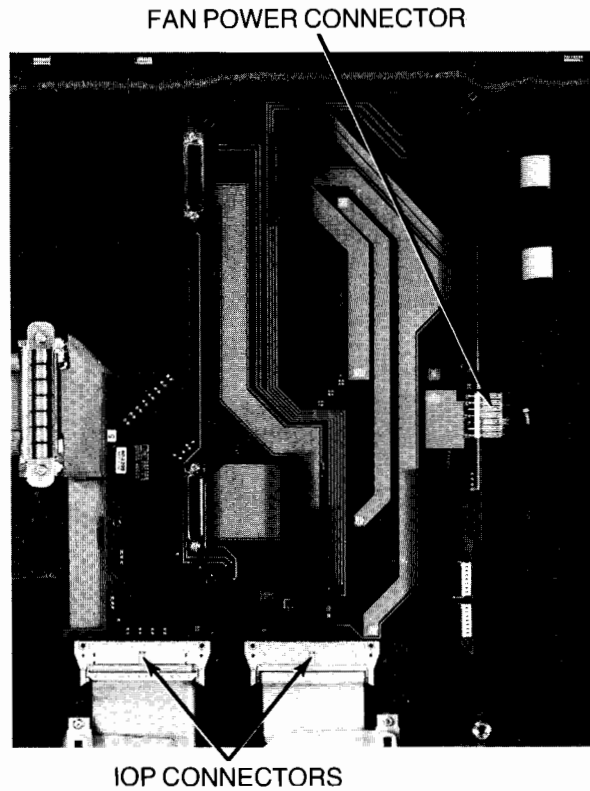

Figure 4-77. Removing Motherboard
9. Disconnect two IOP connectors and fan power connector from motherboard (Figure 4-77), and lift motherboard out of chassis.